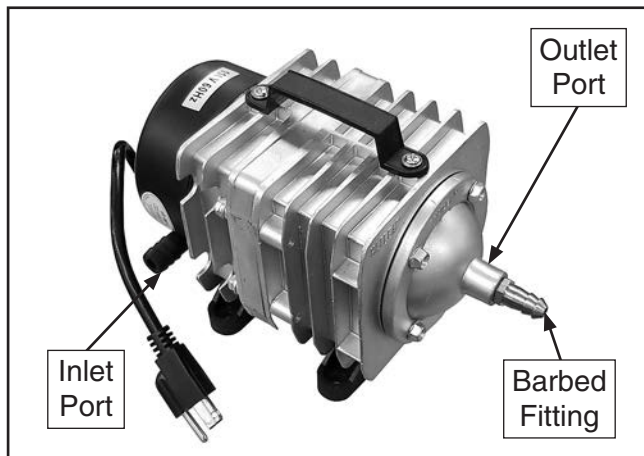

Figure 21. Air pump components.
1. Thread barbed fitting into air pump outlet port and tighten (see **Figure 21**).